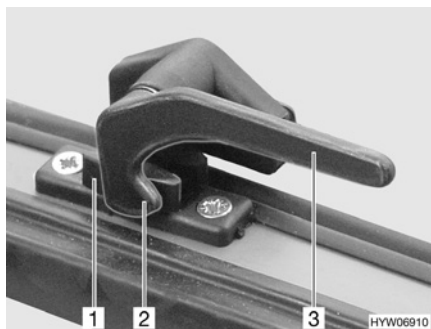

Fig. 29 Catch lever in "closed" position
- Turn the catch lever (Fig. 29,3) a quarter turn towards the centre of the window.
- Turn the catch lever (Fig. 29,3) a quarter turn towards the window frame. The locking catch (Fig. 29,2) is located on the inside of the window catch (Fig. 29,1).
- "Firmly closed" (Fig. 29)